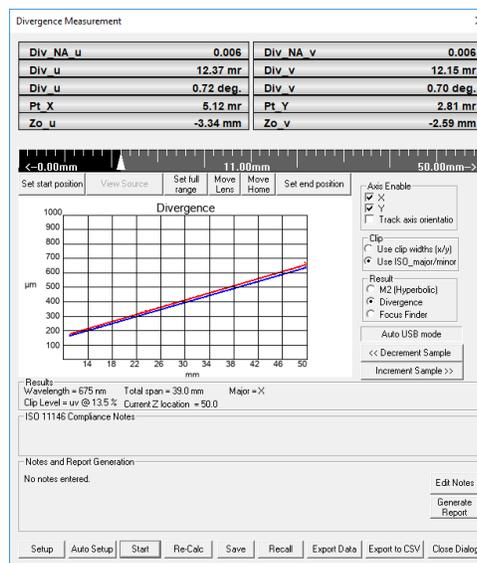

Figure 9.17: The M2 Measurement dialog box changes to the Divergence Measurement dialog box when the Divergence option is chosen instead of M2.
- On the **M2 Measurement** dialog box —within the **Result** options— choose **Divergence** instead of **M2 (Hyperbolic)**. The dialog box will update for divergence measurements (Fig. 9.17) and the fit will change from hyperbolic (for M^2 measurements around the beam waist) to linear (for divergence measurements outside the beam waist in the linear expansion region).
- At the conclusion of the scan, the software performs a linear fit to the data to calculate the final results as shown in Fig. 9.17.